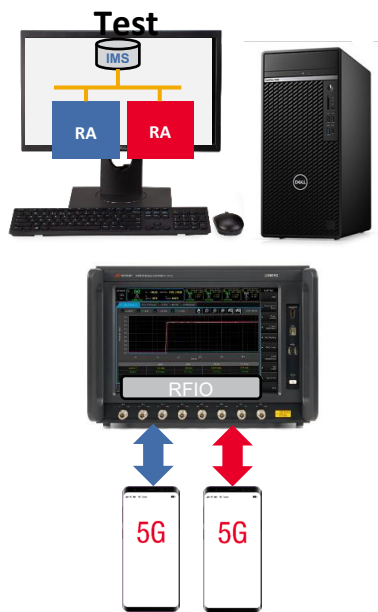

Figure 24. Dual device testing configuration
Use the S8714A RA to select NR Maximum Throughput and automatically configure 5G NR parameters for maximum throughput. Then, measure downlink (DL) and UL IP throughput (**Figure 24**) to compare with theoretical performance.